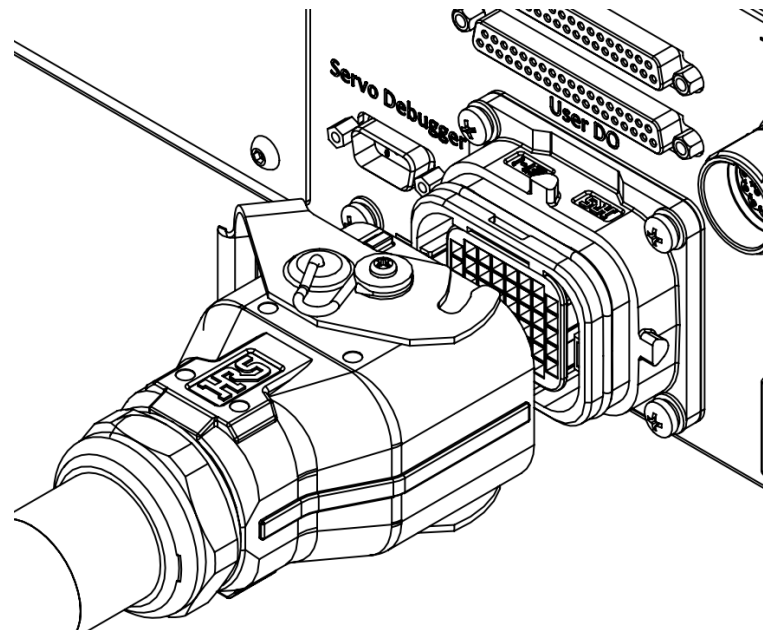

Figure 3-5 Control cabinet heavy-duty connector interface
Step2. Connect the control cabinet. Insert one end of the heavy-duty cable plug into the heavy-duty cable connection interface of the control cabinet (see Figure 3-5), and fasten the lock.